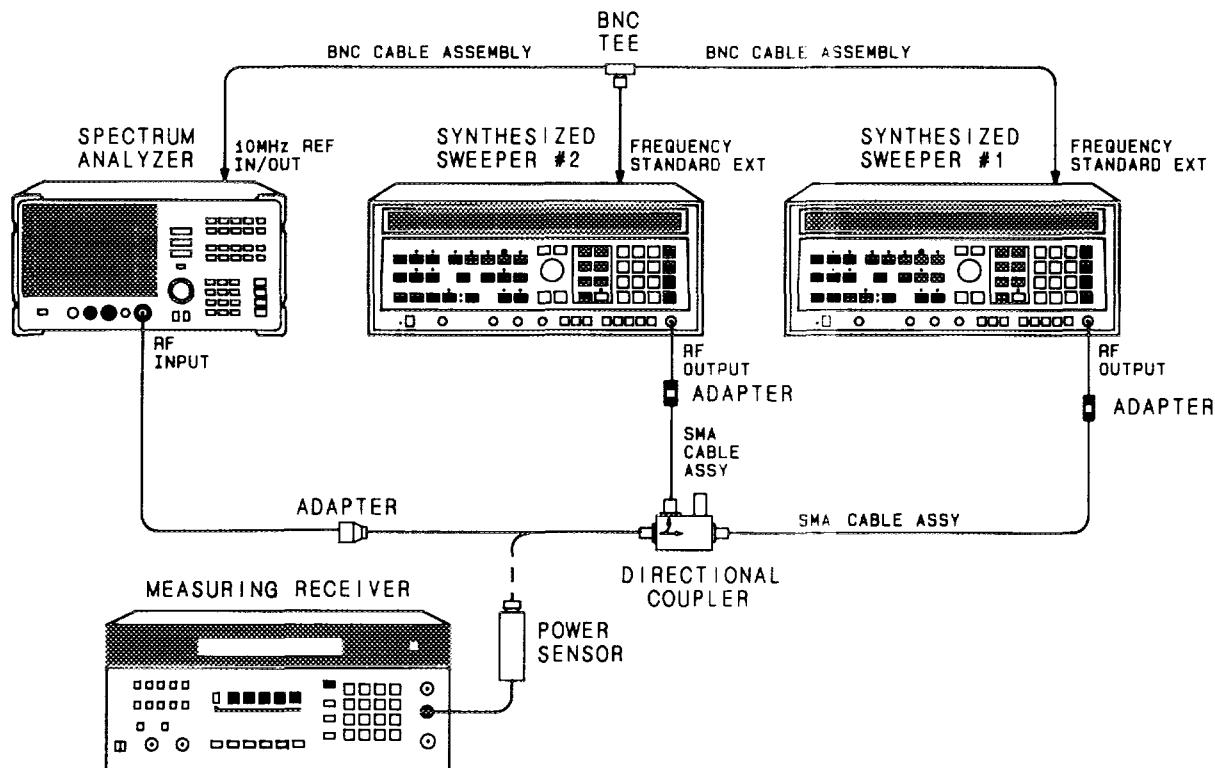

Figure 3-20. Third Order Intermodulation (>2.7 GHz) Test Setup
1. Connect the equipment as shown in Figure 3-20.